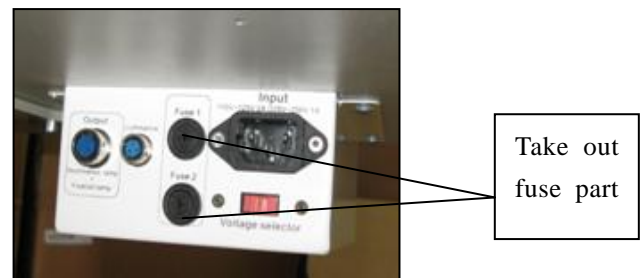
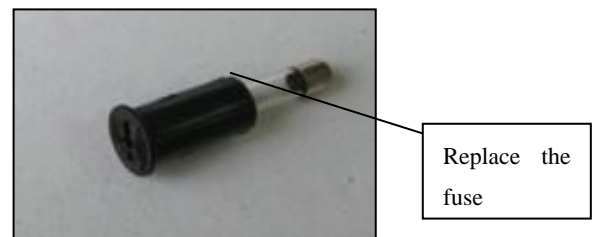

Fig.4.6.3
Fig.4.6.4
2. The fuse is in the outlet which has fuse mark, take out the fuse part (Fig.4.6.3) with screw, you can see two fuses, one is in use, other is in spare (Fig.4.6.4), check them, Replace it with a spare fuse if the one in use is burnt, then place the fuse part into original place.